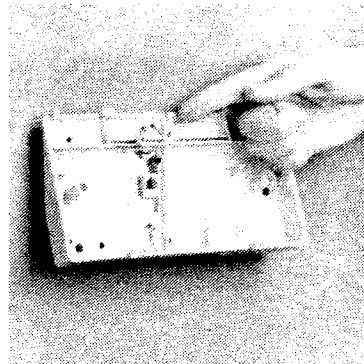

Figure 6.4 - Mount base
4. Mount the base "upside down" on the wall so the modular jack projects through the knockout as in Figure 6.4.